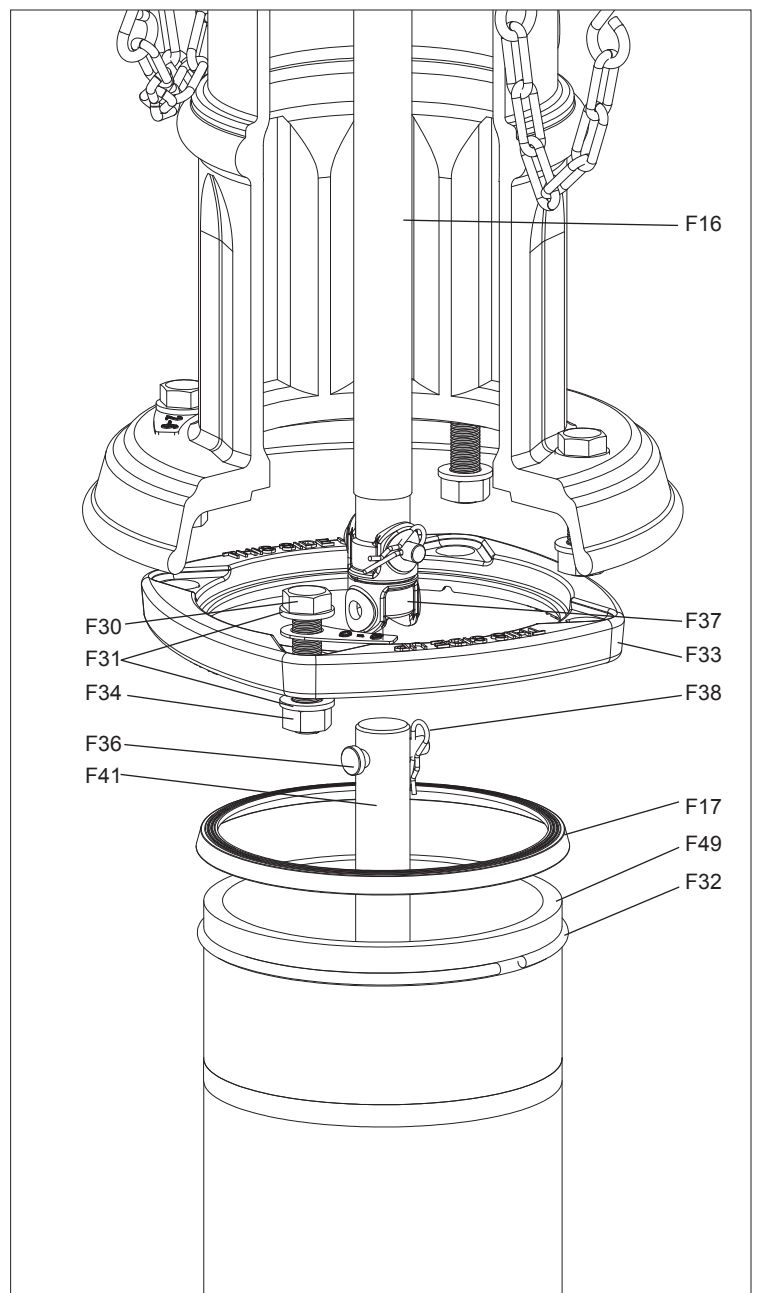

Fig. 8
1. Remove the hardware (F30,31,34) from the Breakable Flange (F33). Slide the Lock Ring (F32) off of the Lower Barrel (F49). (See Fig. 8)
WARNING: Be sure the Breakable Flange (F33) is right side up, indicated with the text "This Side Up", facing towards the nozzle section. (See Fig. 8&9).